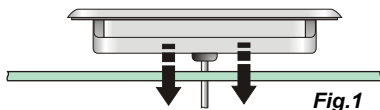

Fig.1
Step 1 - Clean area and insert spaside control. (Fig.1)